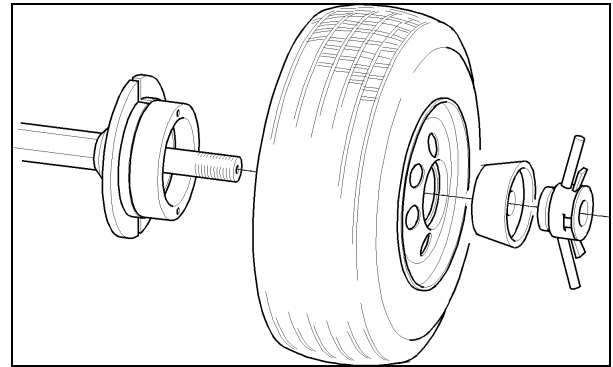

Fig.23
- B.** Lock the rim with the cone from outside following the same procedure described in section 5.1 (Fig.23).